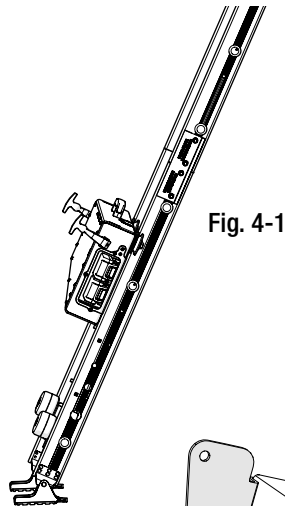

Fig. 4-1
1. Using the remote control, move the TranzVolt carriage about 3 feet from the ground. See Fig. 4-1.